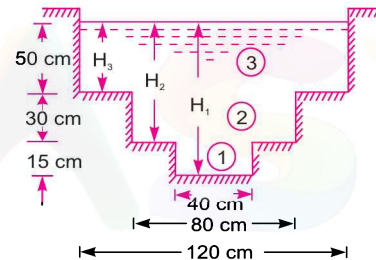

Fig. 8.7
**Problem 8.8** Fig. 8.7 shows a stepped notch. Find the discharge through the notch if  $C_d$  for all section = 0.62.